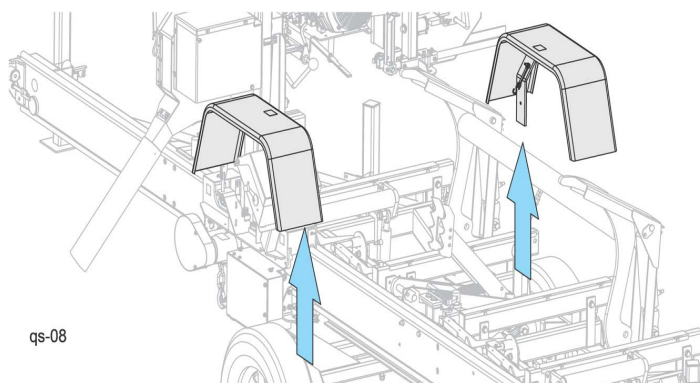

FIG. 3-1
2. Release the fender straps and lift up to remove the fenders. **See Fig. 3-1.**
7. Remove the fenders by lifting them out of the slots. **See Fig. 3-1.**